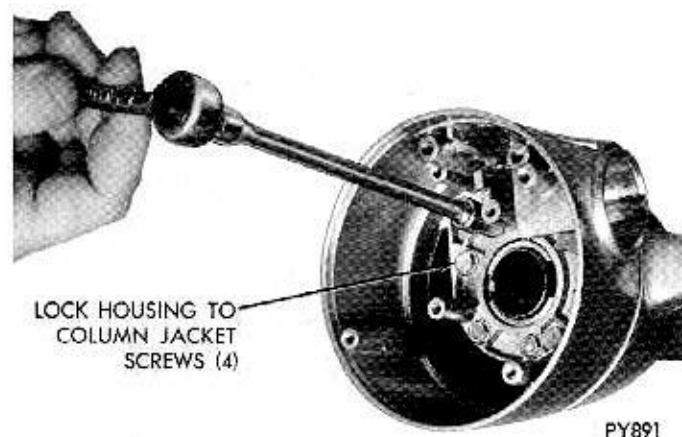

Fig. 12—Lock Housing to Column Jacket, Retaining Screws
(7) Remove four lock housing to column jacket hex head retaining screws and remove housing from jacket (Fig. 12).
(5) Seat the lock housing on top of the jacket, indexing the key in the housing with the slot in the jacket. Insert all four screws and tighten them alternately in steps to insure proper seating of the housing on the jacket. Tighten to 80 inch-pounds (Fig. 12).